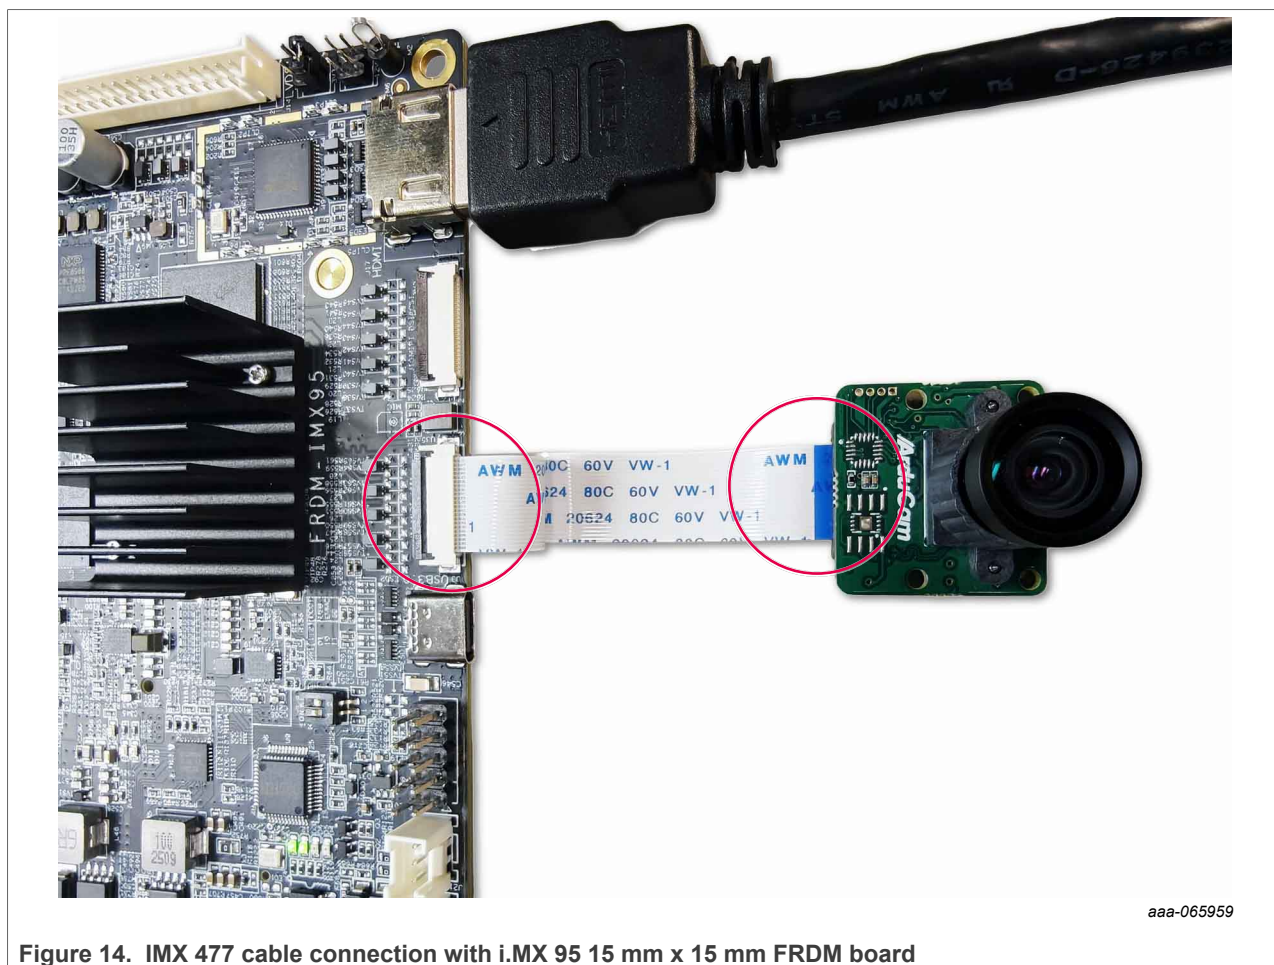

Figure 14. IMX 477 cable connection with i.MX 95 15 mm x 15 mm FRDM board
2. Connect IMX 477 module to MIPI-CSI connector on i.MX 95 15 mm x 15 mm FRDM board. Use the 22 pin (0.5 mm pitch) FPC cable (Figure 5) included with the camera module. Check the contact direction on both sides of the FPC cable before power on to ensure that the power supply is not reversed. Match the blue stiffener side and the conductive contact sides as reference for connections circled in Figure 14.